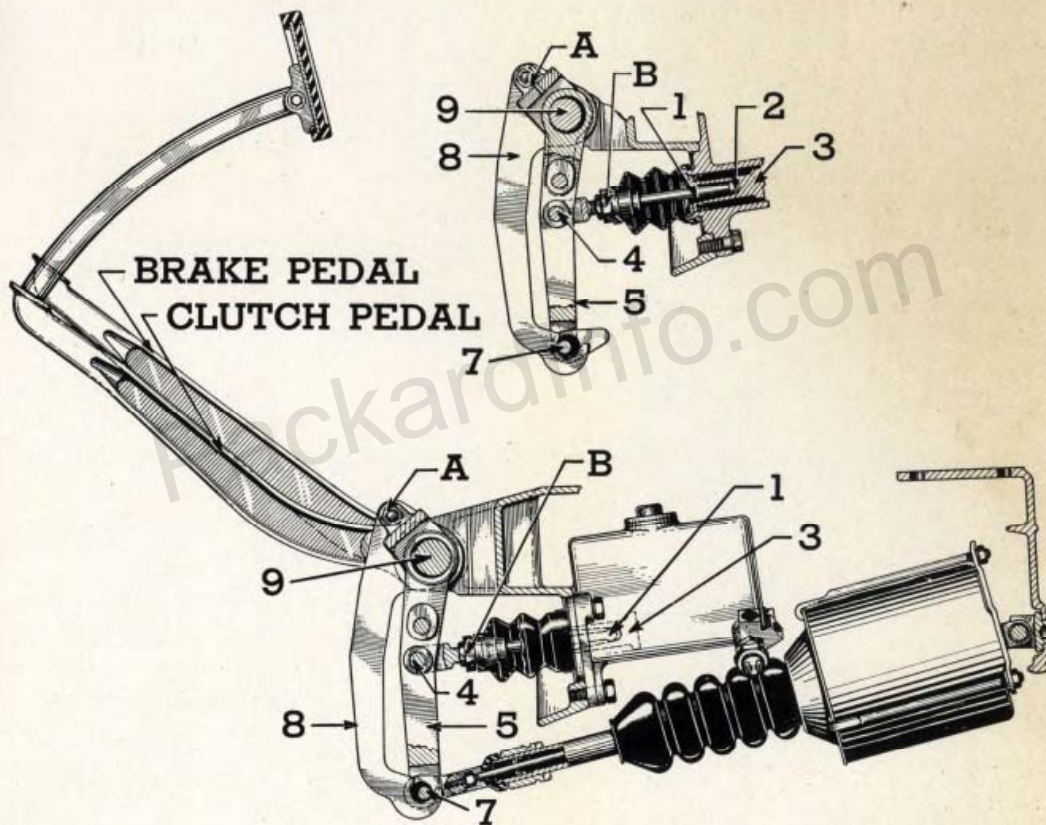

Fig. 36—Vacuum Power Unit Installation. Upper View Shows Position of Lever Clearances at the Instant Power Unit Valve Opens
1. Remove floor boards only. Move brake pedal in and out about 10 times to completely empty the vacuum storage tank. With pedal up against toe board loosen nut "A," Fig. 36, and pull rearward on bottom of lever "5" and forward on bottom of valve lever "8" until clearance at pedal shaft "9" and power unit valve pin "7" is all on the forward side as shown in the lower view at Fig. 36. Holding levers in position, tighten the nut "A" securely.
2. Remove clevis pin "4" and move pedal downward until the clearance in levers "5" and "8" is all on the rear side as shown in the upper view at Fig. 36. With someone holding the pedal in this position adjust the hydraulic master cylinder push rod nut "B" until push rod just contacts the master cylinder piston when the clevis pin "4" is inserted.